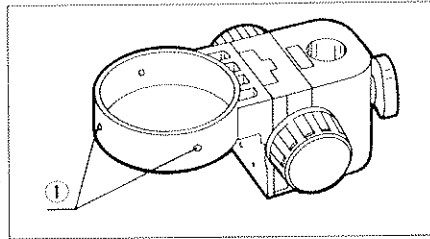

Fig. 5
- (1) Loosen the three fixing screws ① on the circumference of the arm with the Allen wrench provided and insert the microscope body. (Fig. 5)
- (2) Tighten the three fixing screws securely.